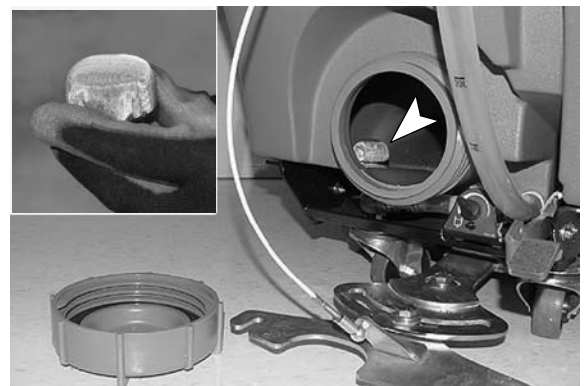

FIG. 30
3. Remove and clean the solution tank filter (Figure 30). Turn the filter counter-clockwise to remove.